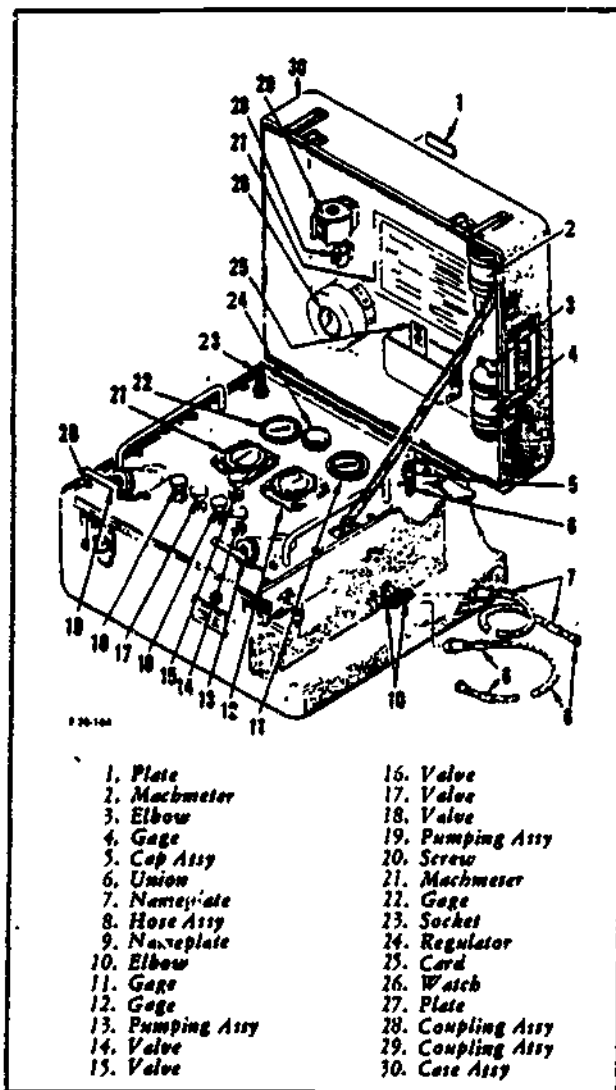

Figure 2-1. Pressure Ratio Transducer Tester Components
2-2. Operation of this tester requires complete familiarity with all components of the tester. (See figure 2-1.) See figure 2-2 for a list of controls, indicators, and connections incorporated in this tester, and description of their function. In addition, see figure 2-3 for plumbing arrangement used in this tester for each of two test setups. Provisions are included in this tester for connection to external pressure and vacuum sources as an optional
The machmeters (2, 21, figure 2-1), absolute pressure gages (4, 12), vacuum gage (11), and pressure gage (22) are delicate instruments and must be handled with extreme care at all times.
2-3. PREPARATION FOR USE. (See figure 2-1.)
a. Remove screws (37, figure 3-1) and lift out gages (35, 36) with pneumatic lines attached. Remove hose assemblies (7, 8, 9, figure 2-4) or remove screws (20, figure 2-1), and carefully lift out panel of case assembly (30) to permit access to interior of tester.
b. See figure 2-3 for schematic of alternate plumbing arrangement used in operating tester. Setup No. 1 shows the installation of machmeter (21, figure 2-1) and absolute pressure gage (12) used to perform operational test. Setup No. 2, figure 2-3, shows installation of two absolute pressure gages (4, 12, figure 2-1) used to obtain pressure ratios to conform with engine pressure ratio transducer valves.
a. Remove gage (4, figure 2-1) stored in cover of case assembly (30) for use in place of machmeter (21).
b. Disconnect hose assemblies (8, 9, figure 2-4) from machmeter and one hose assembly (7) from absolute pressure gage (12, figure 2-1) to P_{T1} .
c. Connect one hose assembly (8, figure 2-4) to absolute pressure gage (4, figure 2-1), and one hose assembly (8, figure 2-4) from absolute pressure gage (4, figure 2-1) to P_{T1} .
e. Connect loose end of hose assembly (9) to absolute pressure gage (12, figure 2-1).
2-8. PRELIMINARY TEST. (See figure 2-1.)